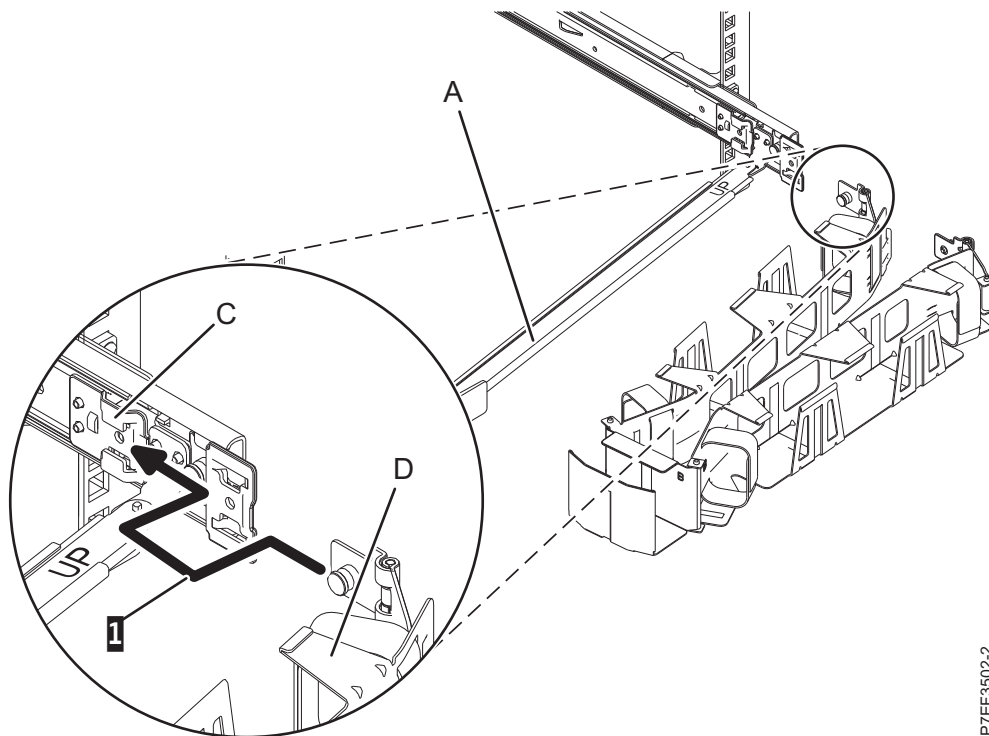
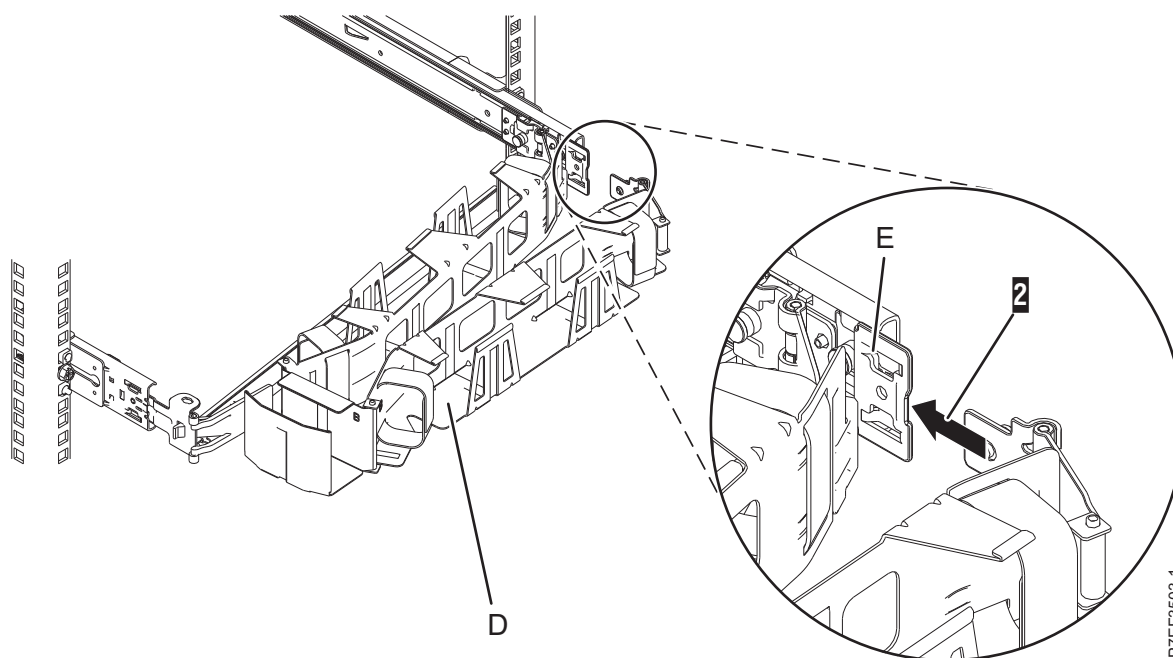

Figure 15. Sliding the cable-management arm tab into the mounting bracket slot
Figure 16. Sliding the other cable-management arm tab into the extension bracket
7. Place the cable-management arm (**D**) on the support arm (**A**). Slide the first cable-management arm tab into the slot on the mounting bracket (**C**). Push the tab until the spring-loaded latch snaps into place. Slide the other cable-management arm tab into the extension bracket (**E**) on the outside of the right slide rail (**2**). Push the tab until the spring-loaded latch snaps into place. For details, see Figure 15 on page 11 and Figure 16 on page 11.